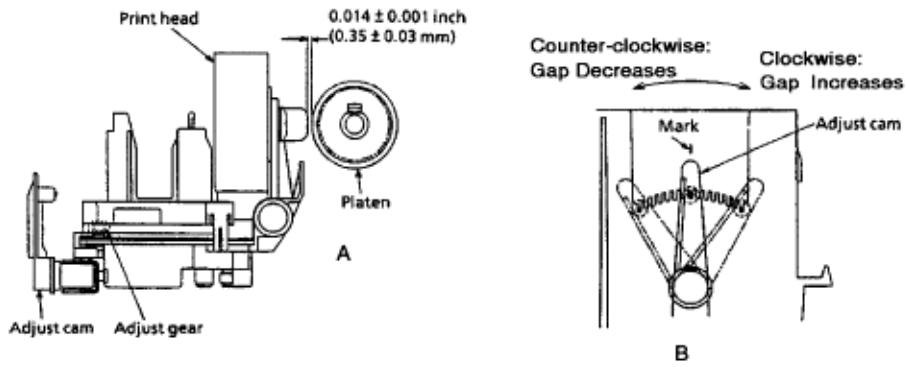

Figure 2
10. If the gap measurements are different between the left and right positions, turn the adjust cam as follows. (Figure 2 B)